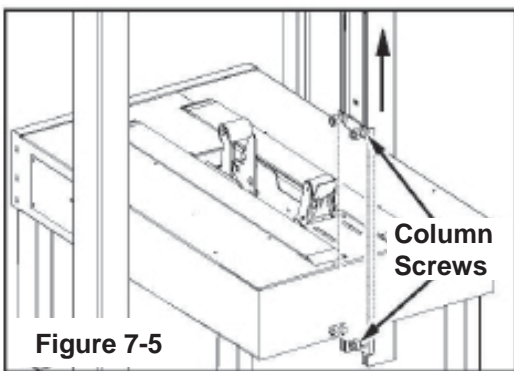

Figure 7-5
1. Using a 6mm hex wrench, loosen the four (4) screws (Figure 7-5) in the column without the height adjustment handle.
4. Using a 6mm hex wrench, loosen the four (4) screws that secure the column (with the handle) to the machine bed.